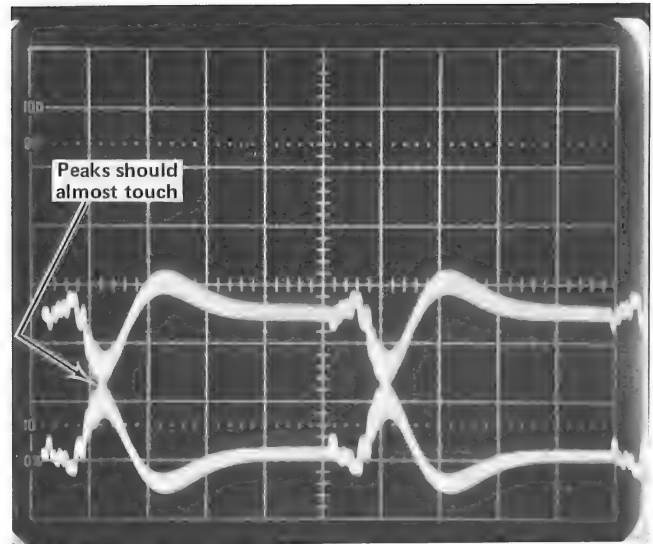

Fig. 4-17. Hard Copy Threshold adjustment waveform. 0.5 V/division vertical; 0.5  $\mu$ s/division horizontal.
e. Press PAGE and then press MAKE COPY and check for an oscilloscope display as in Fig. 4-17. The peaks of the most prominent pulses should almost touch.
f. Adjust R167—Hard Copy Threshold (on the Hard Copy Amplifier board, Fig. 4-16) until the peaks almost touch as in Fig. 4-17. The separation may vary with the vertical position of the scan bar on the screen. If so, adjust for minimum separation of the closest pulses.